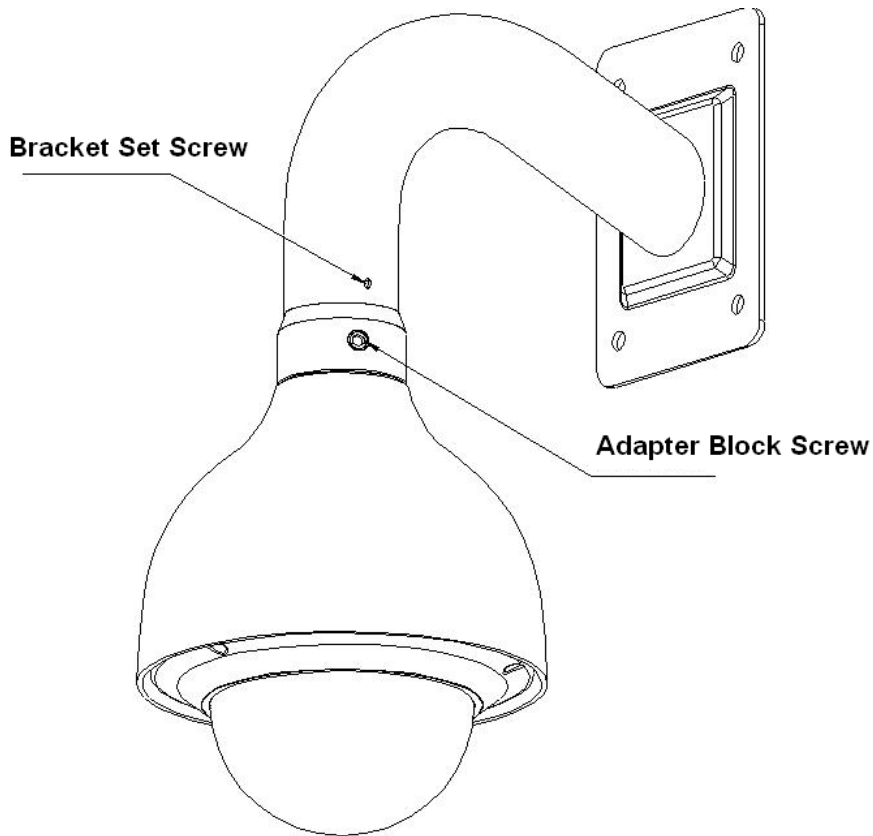

Figure 4-2
- 2) In Figure 4-2, connect the adapter block to the internal thread of the wall mount bracket, until it reaches the end and then fix the set screw. Pull the intelligent speed dome composite cable through the adapter block and pull it out of the other end of the wall mount bracket. Line up the hook at the top of the external enclosure to the inside hole of the adapter block and then push it to the end, and then secure the three screws of the adapter block firmly. **Please note this step is very important. Please make sure the screws are firm, otherwise, it may result in falling risk of the intelligent speed dome.**